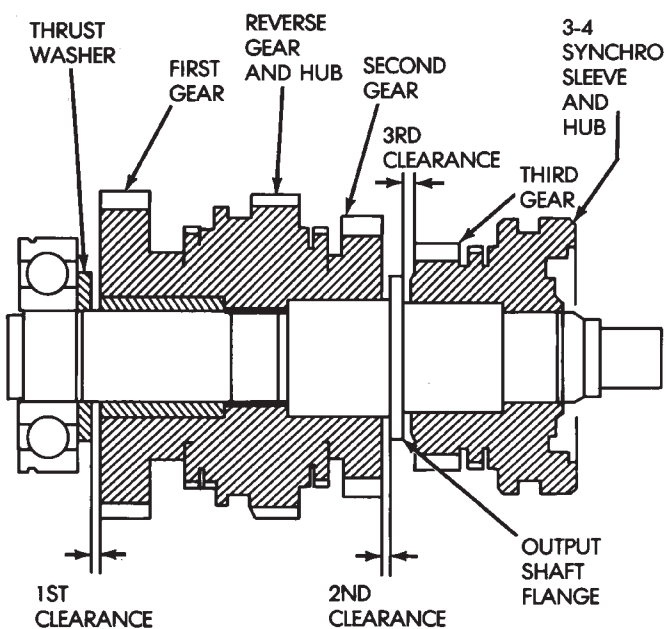

Fig. 62 Checking Output Shaft Gear Thrust Clearance
(1) Measure thrust clearance of output shaft first, second and third gears with feeler gauge (Fig. 62).
(2) If first gear thrust clearance is incorrect, replace gear and thrust washer. **If second or third gear clearance is incorrect, either gear and bearing, or out-**
(3) Press fifth gear and rear bearing off rear of output shaft.
(4) Remove thrust washer, pin, and first gear and bearing (Fig. 62).
If shaft flange thickness is OK but previously measured second/third gear thrust clearance was incorrect (Fig. 62), replace the necessary gear and needle bearing as an assembly.